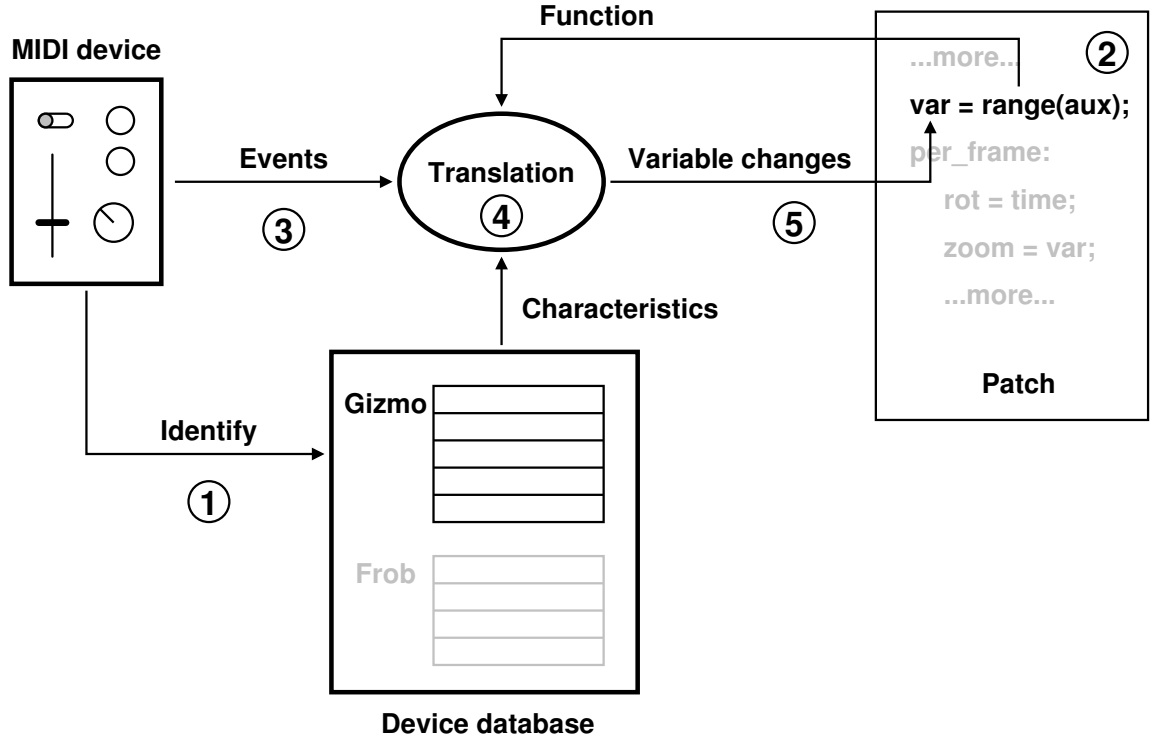

Figure 1: Input event processing in Flickernoise.
Figure 1 shows how MIDI messages are processed in Flickernoise: For each MIDI device, an entry in the device database is selected (1). This entry describes the characteristics of the elements of the MIDI device, e.g., what kind of control elements they are and what addresses they use.